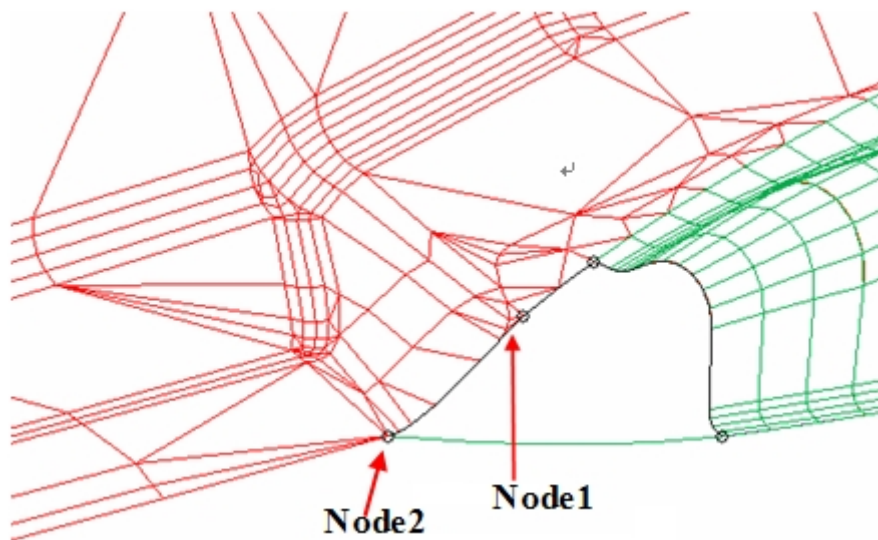

Figure 6.3.21 Select Two Nodes on Part Boundary
3. Select two nodes on the part boundary as illustrated in Figure 6.3.21. Click on the YES button to accept the defined corner region.